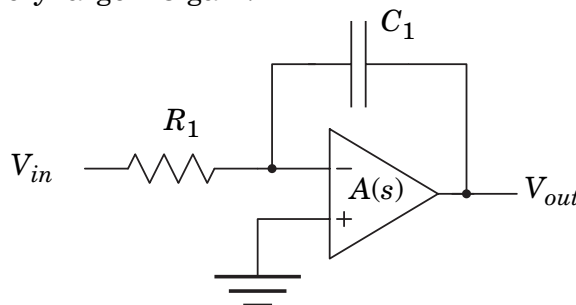

Figure 3.1 An operational amplifier in a context.
- a) Derive the DC gain and the poles of the circuit shown in Figure 3.1. Assume that $C_1 R_1 > 1/p_1$. Motivate all your approximations carefully. The gain of the amplifier is given by: